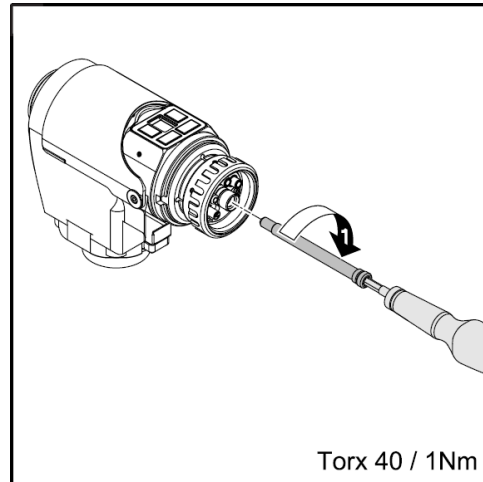

Fig. 5.4.7 (a) Replacing the guide tube
- 2 According to Fig. 5.4.7 (a), remove the guide tube.